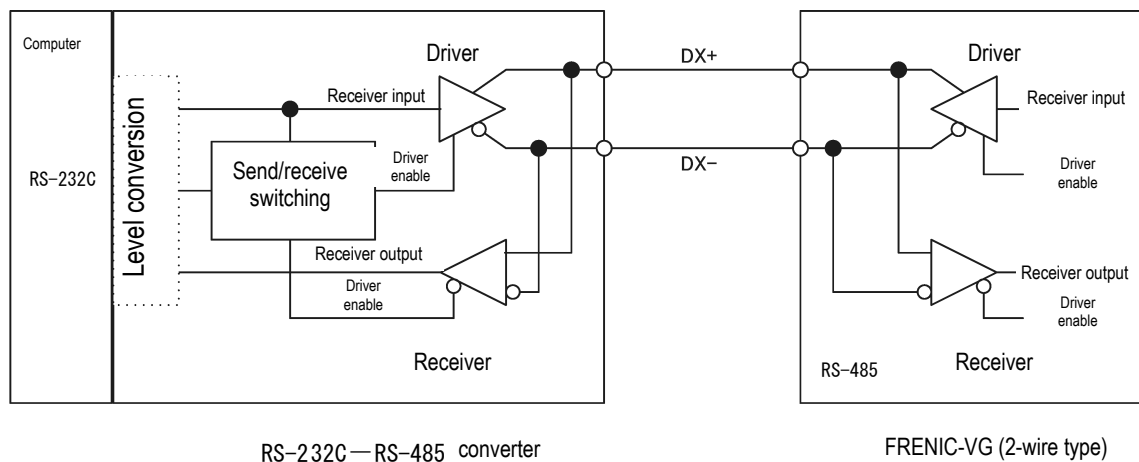

Figure 5.3 Communications Level Conversion
* The fail-safe facility refers to a feature that ensures the RS-485 receiver's output at "High" logic even if the RS-485 receiver's input is opened or short-circuited or all the RS-485 drivers are inactive. Refer to Figure 5.3 Communications Level Conversion.